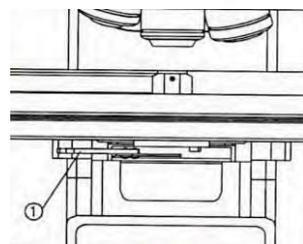

Fig.24
(3) Adjustment of aperture diaphragm for projection illumination: control the size of diaphragm by adjusting the aperture diaphragm adjusting handle 1. If necessary, remove the eyepiece, observe from the eyepiece barrel, and adjust the aperture diaphragm adjusting handle ① until the image shown in Fig.24 is seen.